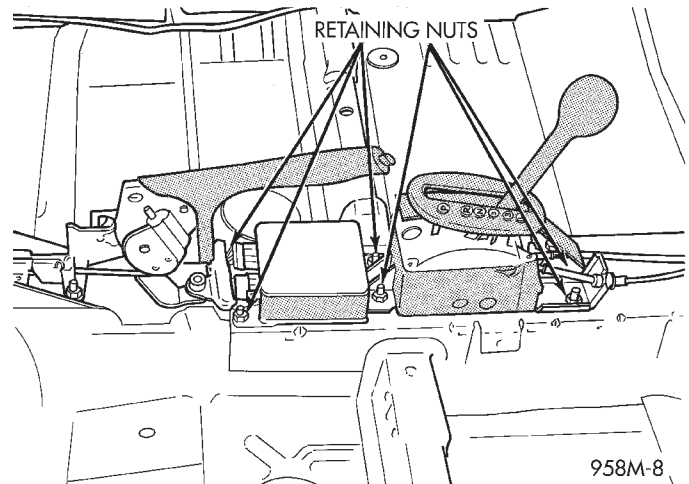

Fig. 4 Airbag Control Module
- (2) For a manual transmission, remove shifter knob and boot.
- (3) Remove the four attaching screws floor console.
- (4) Remove the four floor shifter mounting nuts.
- (5) Remove two rear module mounting nuts and remove module (Fig. 4).